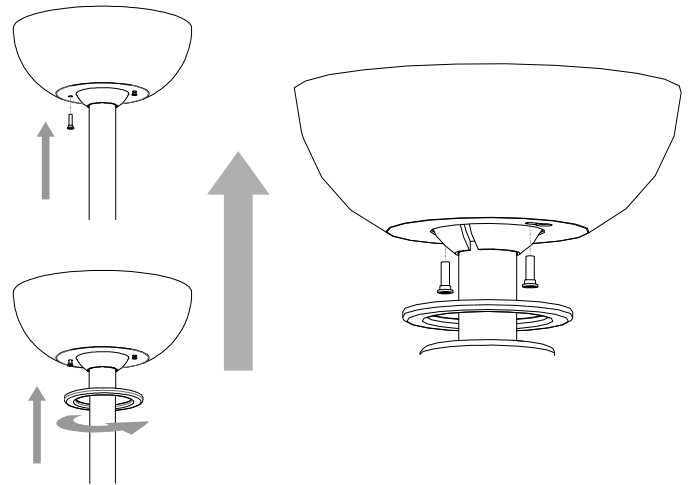

FIG.15
3. Slide the canopy up to mounting bracket and place the key hole on the canopy over the screw on the mounting bracket. Turn canopy until it locks in place at the narrow section of the key holes (**FIG.15**).